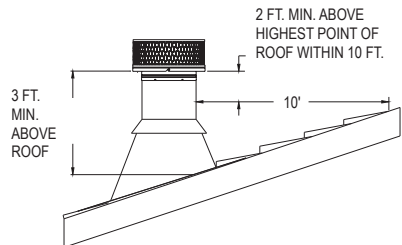
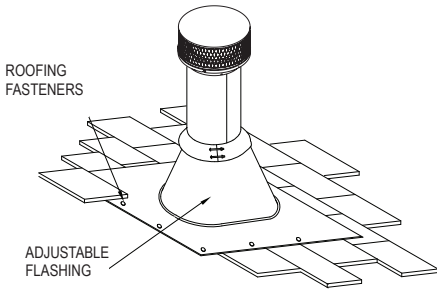

Figure 1
Figure 12
The National Fire Protection Association Standard #211 states: "Chimneys shall extend at least three feet above the highest point where it passes through the roof of a building, and at least two feet higher than any portion of a building within ten feet." (**Fig 1**) 10"-16" diameter DuraTech Chimney may be installed up to 40 feet high when using a Support Box, and up to 30 feet high when using a Tee Support. DuraTech in 18"-24" diameters is intended to be mounted directly to an appliance or masonry fireplace, and is limited in height by the allowable weight of the supporting surface, up to a maximum of 60-ft. If the chimney extends more than 4 feet above the roof, an Extended Roof Bracket must be used. Due to the overlap of the joints, subtract 3/4" from each Chimney Section's height to calculate installed height.
remains vertical (use a level), and that at least a 2-inch clearance to combustible materials is maintained all around. Install the upper edge of the Flashing under the roofing. Nail to the roof along the upper edge and down each side with 1-inch roofing nails. Do not nail the lower edge of the Flashing (**Fig 12**). Be sure to follow local building practices, as needed. Seal all nail heads with a non-hardening waterproof sealant. On flat or tarred and graveled roofs, nail and seal the Flat Roof Flashing to the roof on all sides with roofing compound. Do not put screws through the Flashing into the Chimney Pipe.
11. Finish Top: Apply a non-hardening waterproof sealant around the chimney at the point where the Storm Collar will meet the chimney just above the Flashing, and also along the vertical seam of the chimney pipe, where it is exposed to the weather (**Figures 12 and 13**). Slide the Storm Collar down over the chimney to the top of the Flashing. Tighten the bolts of the Storm Collar and seal the Storm Collar against the sealant. After installing sufficient Chimney Sections to meet the height requirement as shown in **Figure 1**, attach the Chimney Cap onto the top of